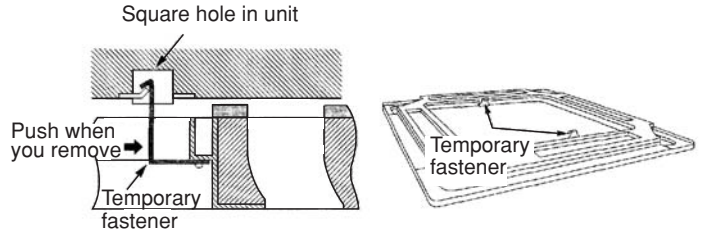
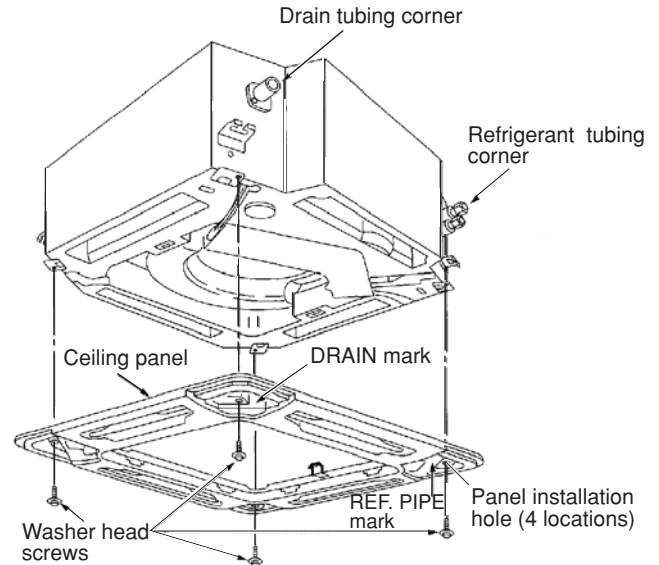
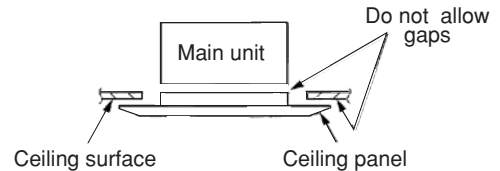

Fig. 9-7
Fig. 9-8
Fig. 9-9
(1) Insert the temporary fasteners (stainless steel) on the inside of the ceiling panel into the square holes on the unit to temporarily fasten the ceiling panel in place. (Fig. 9-7)
- To remove the ceiling panel, support the ceiling panel while pressing the temporary fasteners toward the outside. (Fig. 9-7)
(2) Align the panel installation holes and the unit screw holes.
(3) Tighten the supplied washer head screws at the 4 panel installation locations so that the panel is attached tightly to the unit. (Fig. 9-8)
(4) Check that the panel is attached tightly to the ceiling.
- At this time, make sure that there are no gaps between the unit and the ceiling panel, or between the ceiling panel and the ceiling surface. (Fig. 9-9)